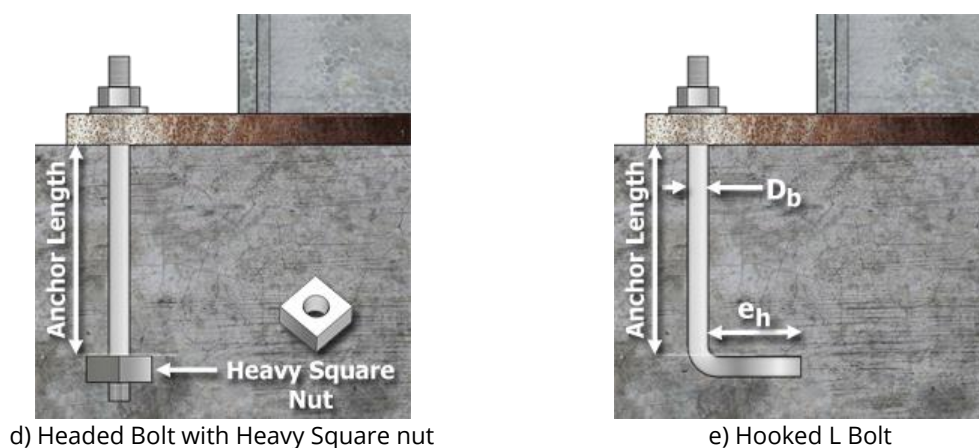

Figure 3-28, Anchor Bolts Types
eh/Db Ratio: If the Hooked Anchors option is chosen, the e_h/D_b ratio should be determined. The ' e_h ' parameter is shown in Figure 3-28(e) for L-shaped anchors. This parameter is used to calculate pullout strength of hooked anchor and in ACI318 code one restriction is mentioned for it: $3D_b < e_h < 4.5D_b$. The reason for determining such minimum and maximum value for e_h is that the boundaries of experimental specimens tested by Shaikh and Kuhn 1996 have such values and consequently, the code relations are derived from the result of these tests. For more information refer to R17.4.3.5 ACI318-14 Commentary. It should be mentioned that one can choose a value greater than the maximum, but for calculating the pullout strength of anchors, the maximum allowable value for e_h (i.e. $4.5D_b$) will be used.
- Anchor Length: In the connection model, the buried lengths of all anchor rods are considered as equal. These lengths for different anchor bolt types are shown in Figure 3-28. If user chooses the Program Determined option for anchor length, the software will determine the lengths of rod anchors. In this mode, software considers the lengths of anchor rods 20 times as equal as the maximum diameter of rods and this length is shown in the Default Length field. If user chooses the Specified By User option then the anchors length must be specified by user.